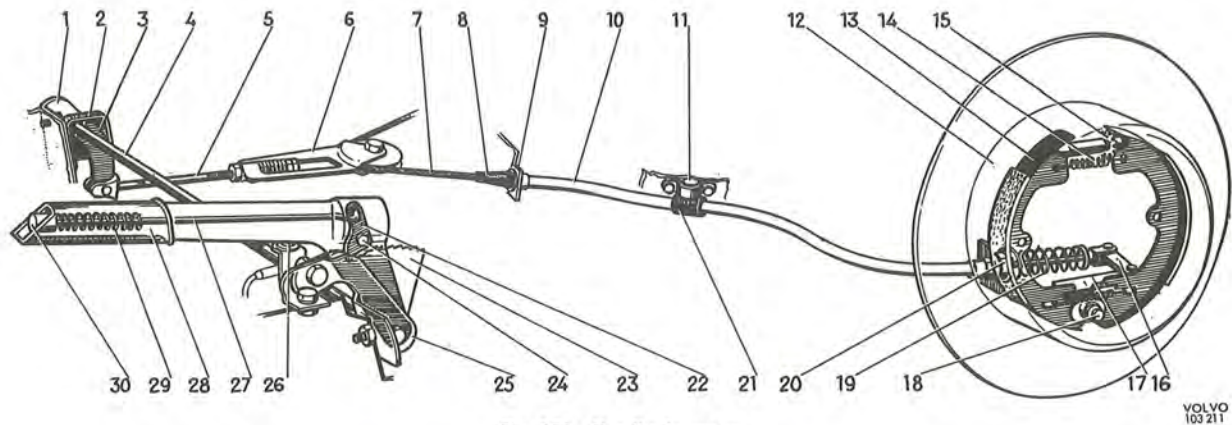

Fig. 5-78. Handbrake system
The construction of the handbrake is shown in Fig. 5-78. The handbrake lever is mounted on the floor on the outside of the driving seat. The movement of the lever is transmitted via the shaft (4), lever and pull rod (5) to the pulley (6). From here the movement is transmitted through the cable (7) to the rear wheel brake units. At each rear wheel, the movements of the cable influence the lever (16), which is carried in a movable rod (17) on the brake shoes. The lower ends of the brake shoes are held pressed against the anchor bolt (18) by the lower spring. The upper ends are jointed through the adjusting devices (15) to which
4. Remove the rubber cover (8, Fig. 5-78) for the front attachment of the cable sleeve and the nut as well as the attachment for the rubber suspension ring on the frame member. Remove the cable from the other side of the attachment in the same way.
2. Remove the split pin and stretch the cable so that the pull rod (5, Fig. 5-78) can be removed from the lever.
5. Unscrew the button (30, Fig. 5-78) and remove the spring (29) from the handbrake lever. Remove the rivet (24) and take out the push rod (27) and the pawl (22).
6. Fit the new parts in the reverse order, see Fig. 5-78. Make sure that the rivet is firmly fixed but does not obstruct the movement of the pawl. Lubricate the bushes with a thin coat of ball bearing grease. Do not forget to lock the pull rod and make sure that the rubber covers seal well.